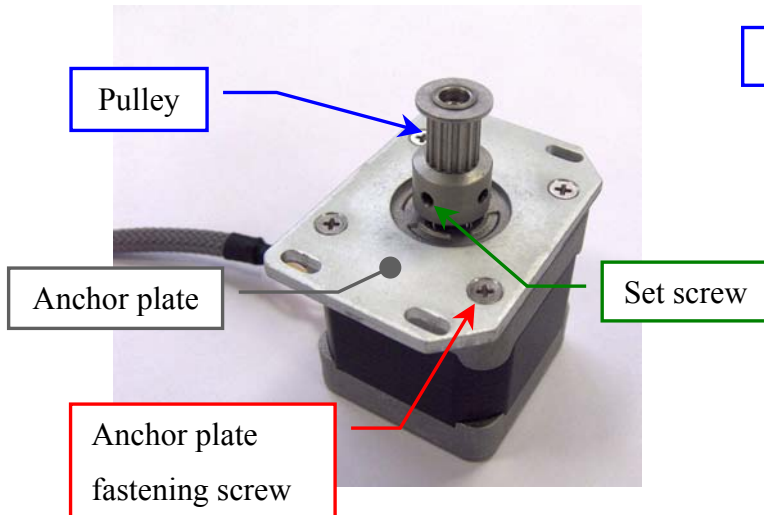
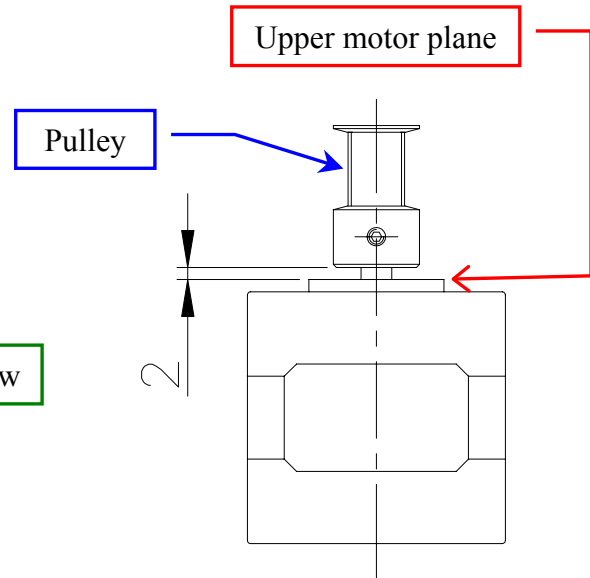

Fig. 21 - Horizontal Sampling Arm Motor anchor plate
Fig. 22 - Horizontal Sampling Arm Motor scheme
12. Remove the belt from the Horizontal Sampling Arm Motor pulley (Fig. 21).
14. Loosen the two set screws of the Horizontal Sampling Arm Motor pulley (Fig. 21), then extract the pulley to the motor axis.
15. Unscrew the four fastening screws of the Horizontal Sampling Arm Motor anchor plate (Fig. 21), then take out the anchor plate to the motor.
17. Position the pulley to 2.00 mm with respect to upper motor plane (Fig. 22), then tighten the two set screws of the pulley (Fig. 21).
18. Position correctly the anchor plate on the upper plane of the new motor (Fig. 21), then screw the four anchor plate fastening screws (Fig. 21).
12. Remove the belt from the Horizontal Sampling Arm Motor pulley (Fig. 21) from the horizontal handling pulley, then substitute it with the new one.